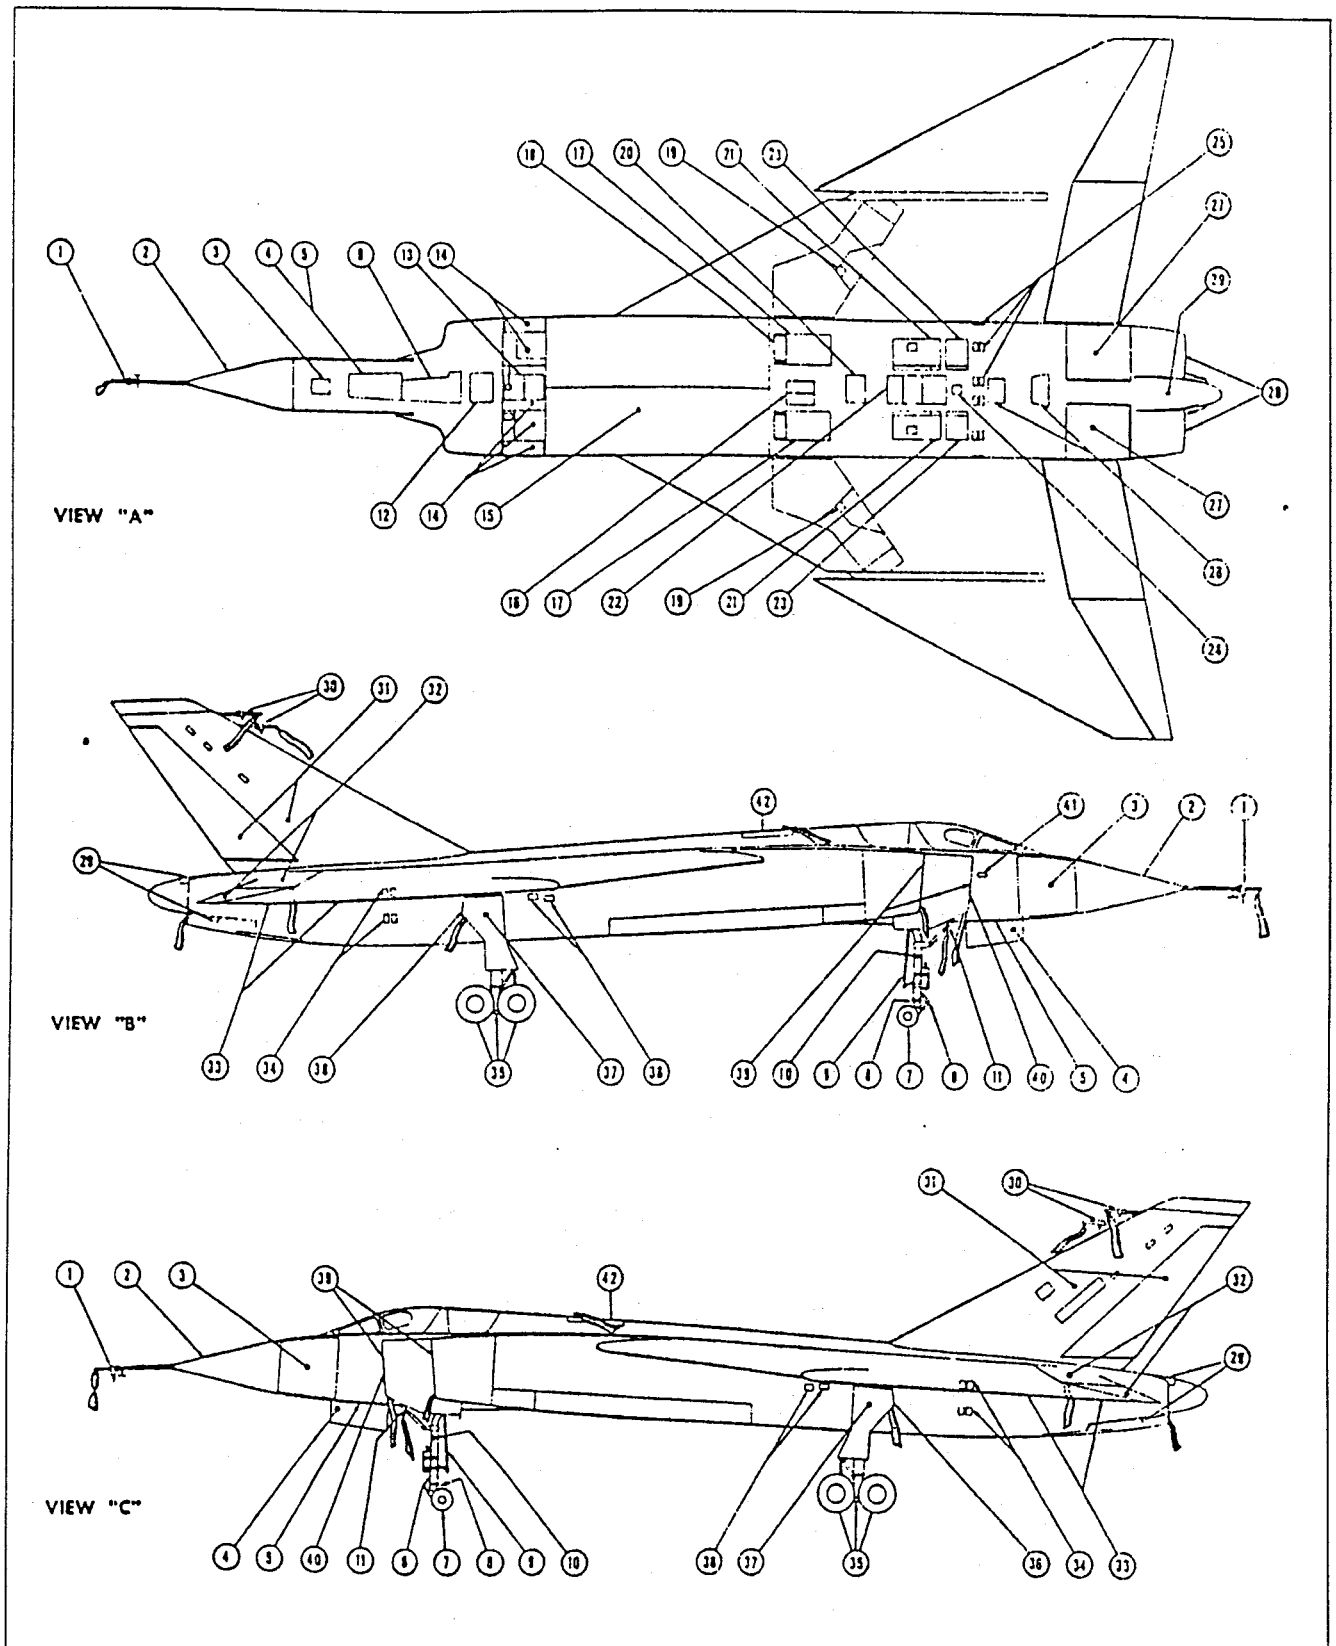

FIG 2-1 EXTERIOR INSPECTION
3. Carry out the Exterior Inspection as shown on Fig. 2-1.